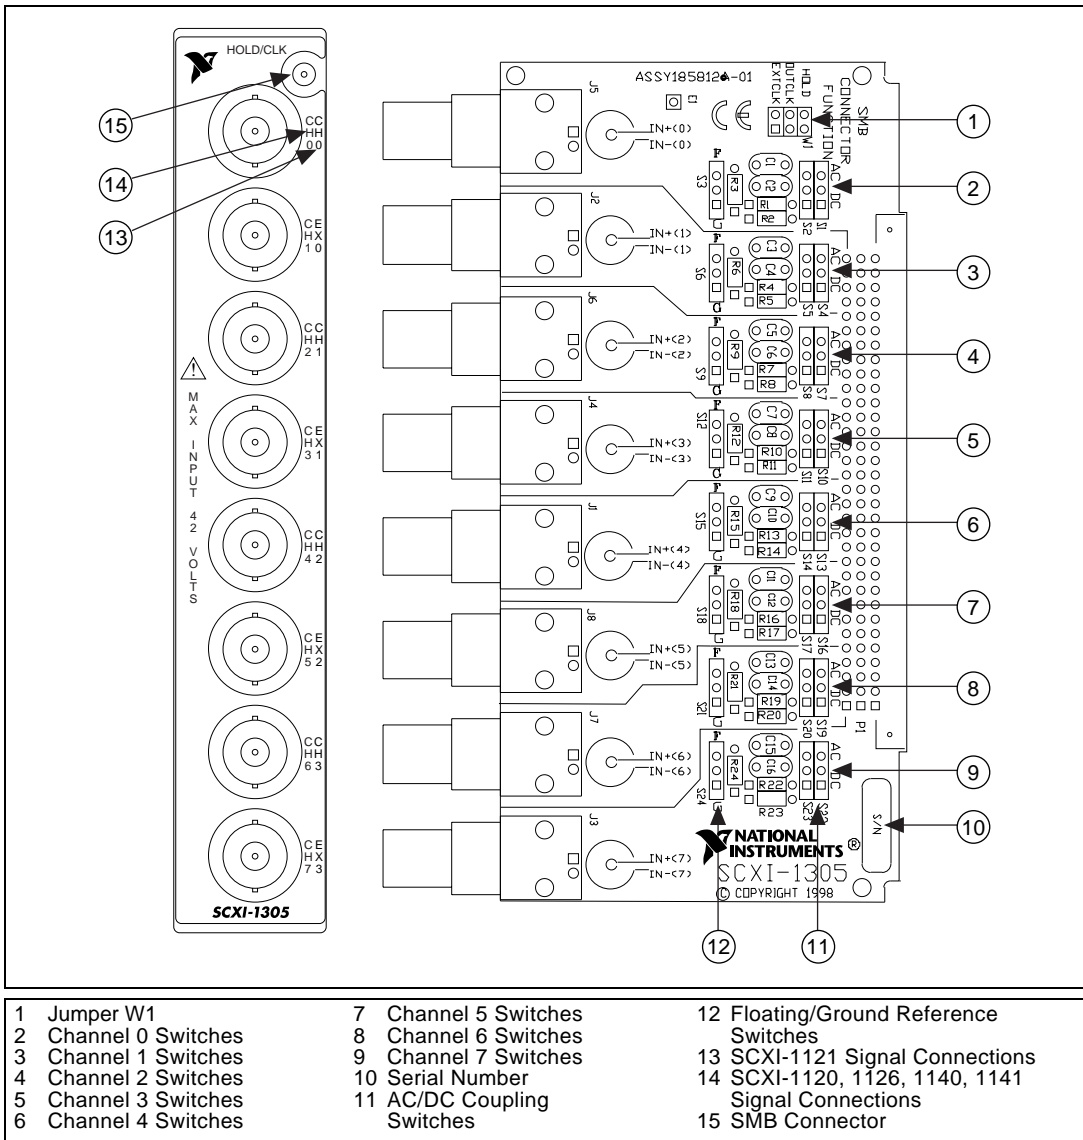

Figure 2. SCXI-1305 Signal Connections
Refer to Figure 2 for the floating and ground-referenced signal configuration switch locations.
Refer to Figure 2 for the AC/DC coupling configuration switch locations.
Due to space limitations, a jumper, W1, inside the terminal block is used to select which clock goes to the SMB connector. See Figure 2 for location of W1. Refer to your *SCXI-1140 User Manual* or *SCXI-1141 User Manual* for the use of these clocks.
2. Configure each of the AC/DC coupling and ground-referencing switches, depending on the signal you are measuring. The top set of switches (S1, S2, and S3) corresponds to input channel 0, the next set down (S4, S5, and S6) corresponds to input channel 1, and so on. The bottom set of switches (S22, S23, and S24) corresponds to input channel 7. Refer to Figure 2 for the switch locations.
3. If using your SCXI-1305 with an SCXI-1140 or SCXI-1141, configure the SMB connector function (jumper W1). See Figure 2 for locations.
5. Connect your signal wires to the BNC and SMB connectors. Signal names printed in black are for the SCXI-1120, SCXI-1126, SCXI-1140, and SCXI-1141. Signal names printed in blue are for the SCXI-1121. When connecting your signals to the SCXI-1305, follow the labeling on the SCXI-1305 for the appropriate module, as indicated in Figure 2.
Figure 2 shows the SCXI-1305 signal connections.